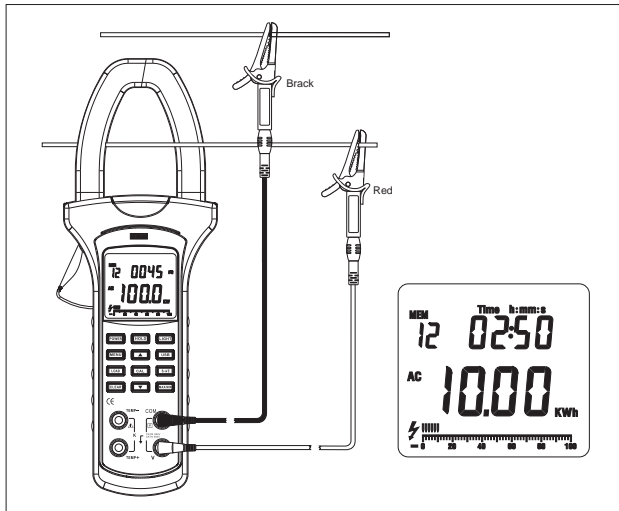

Figure 9
F. Active Energy (main display) + Time (secondary display) Measurement (see figure 9)